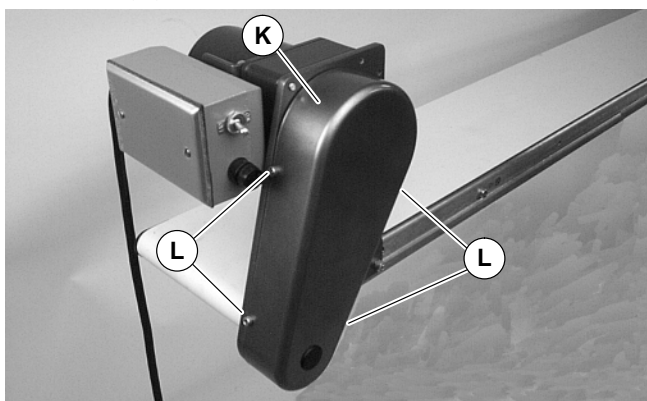

Figure 9
1. Remove four (4) screws (L of Figure 9) and remove cover (K).
4. Install cover (K of Figure 9) with four (4) screws (L). Tighten screws to 35 in-lb (4 Nm).
- Install cover (K of Figure 9) with four (4) screws (L). Tighten screws to 35 in-lb (4 Nm).
- Remove four (4) screws (L of Figure 9) and remove cover (K).